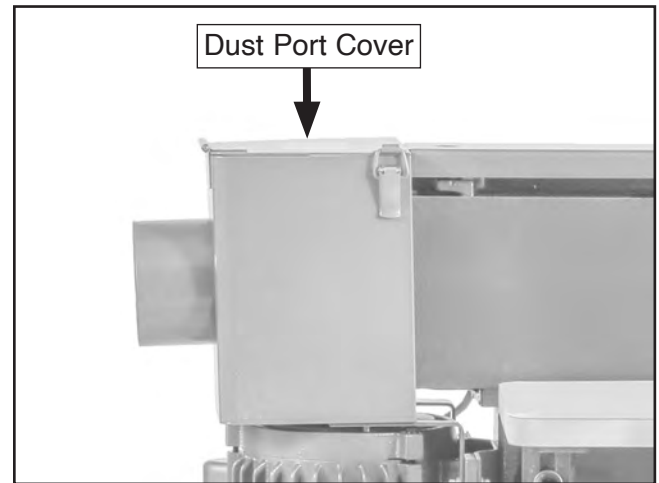

Figure 20. Location of dust port cover.
- Unlatch and open dust port cover shown in **Figure 20**.